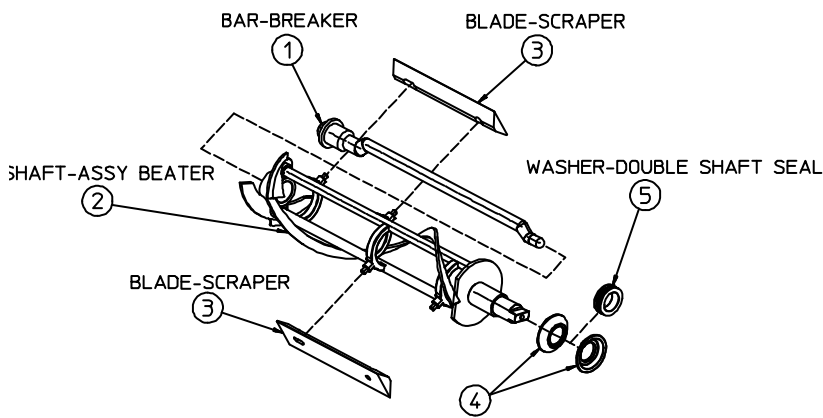

Figure 7-3
4. Remove the beater shaft assembly (2, figure 7-3) from the cylinder. Then remove breaker bar (1), scraper blades (3) and shaft seal (4,5) from the beater shafts. Remove the cup seals (4) from the washer (5) on the shaft seal assembly.